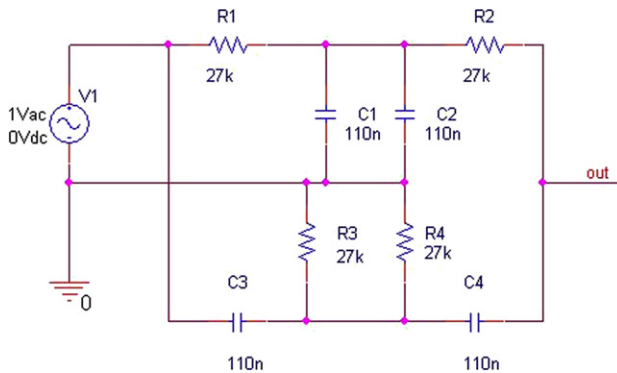

FIGURE 4.6
Figure 4.6 shows a passive twin T notch filter. You will create an AC sweep and plot the frequency response of the circuit.
1. Draw the circuit of the notch filter in Figure 4.6. The V_{AC} source can be found in the source library.
For the notch filter in Figure 4.6, $R = 27 \text{ k}\Omega$ and $C = 110 \text{ n}$. Therefore, using equation 4.1, the notch frequency is given by: